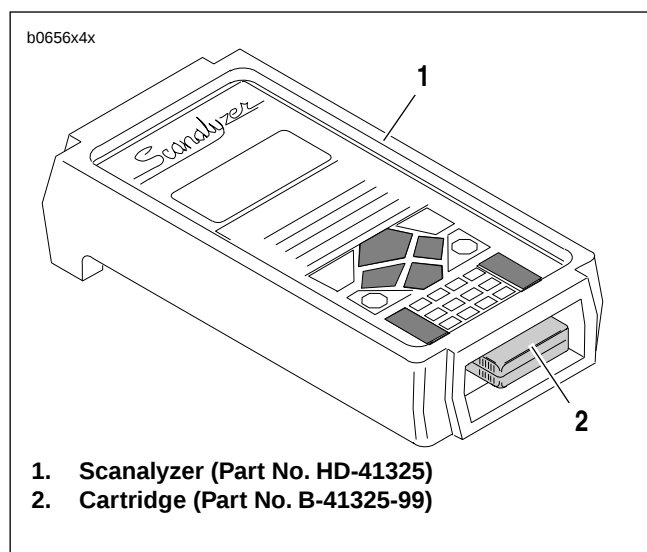
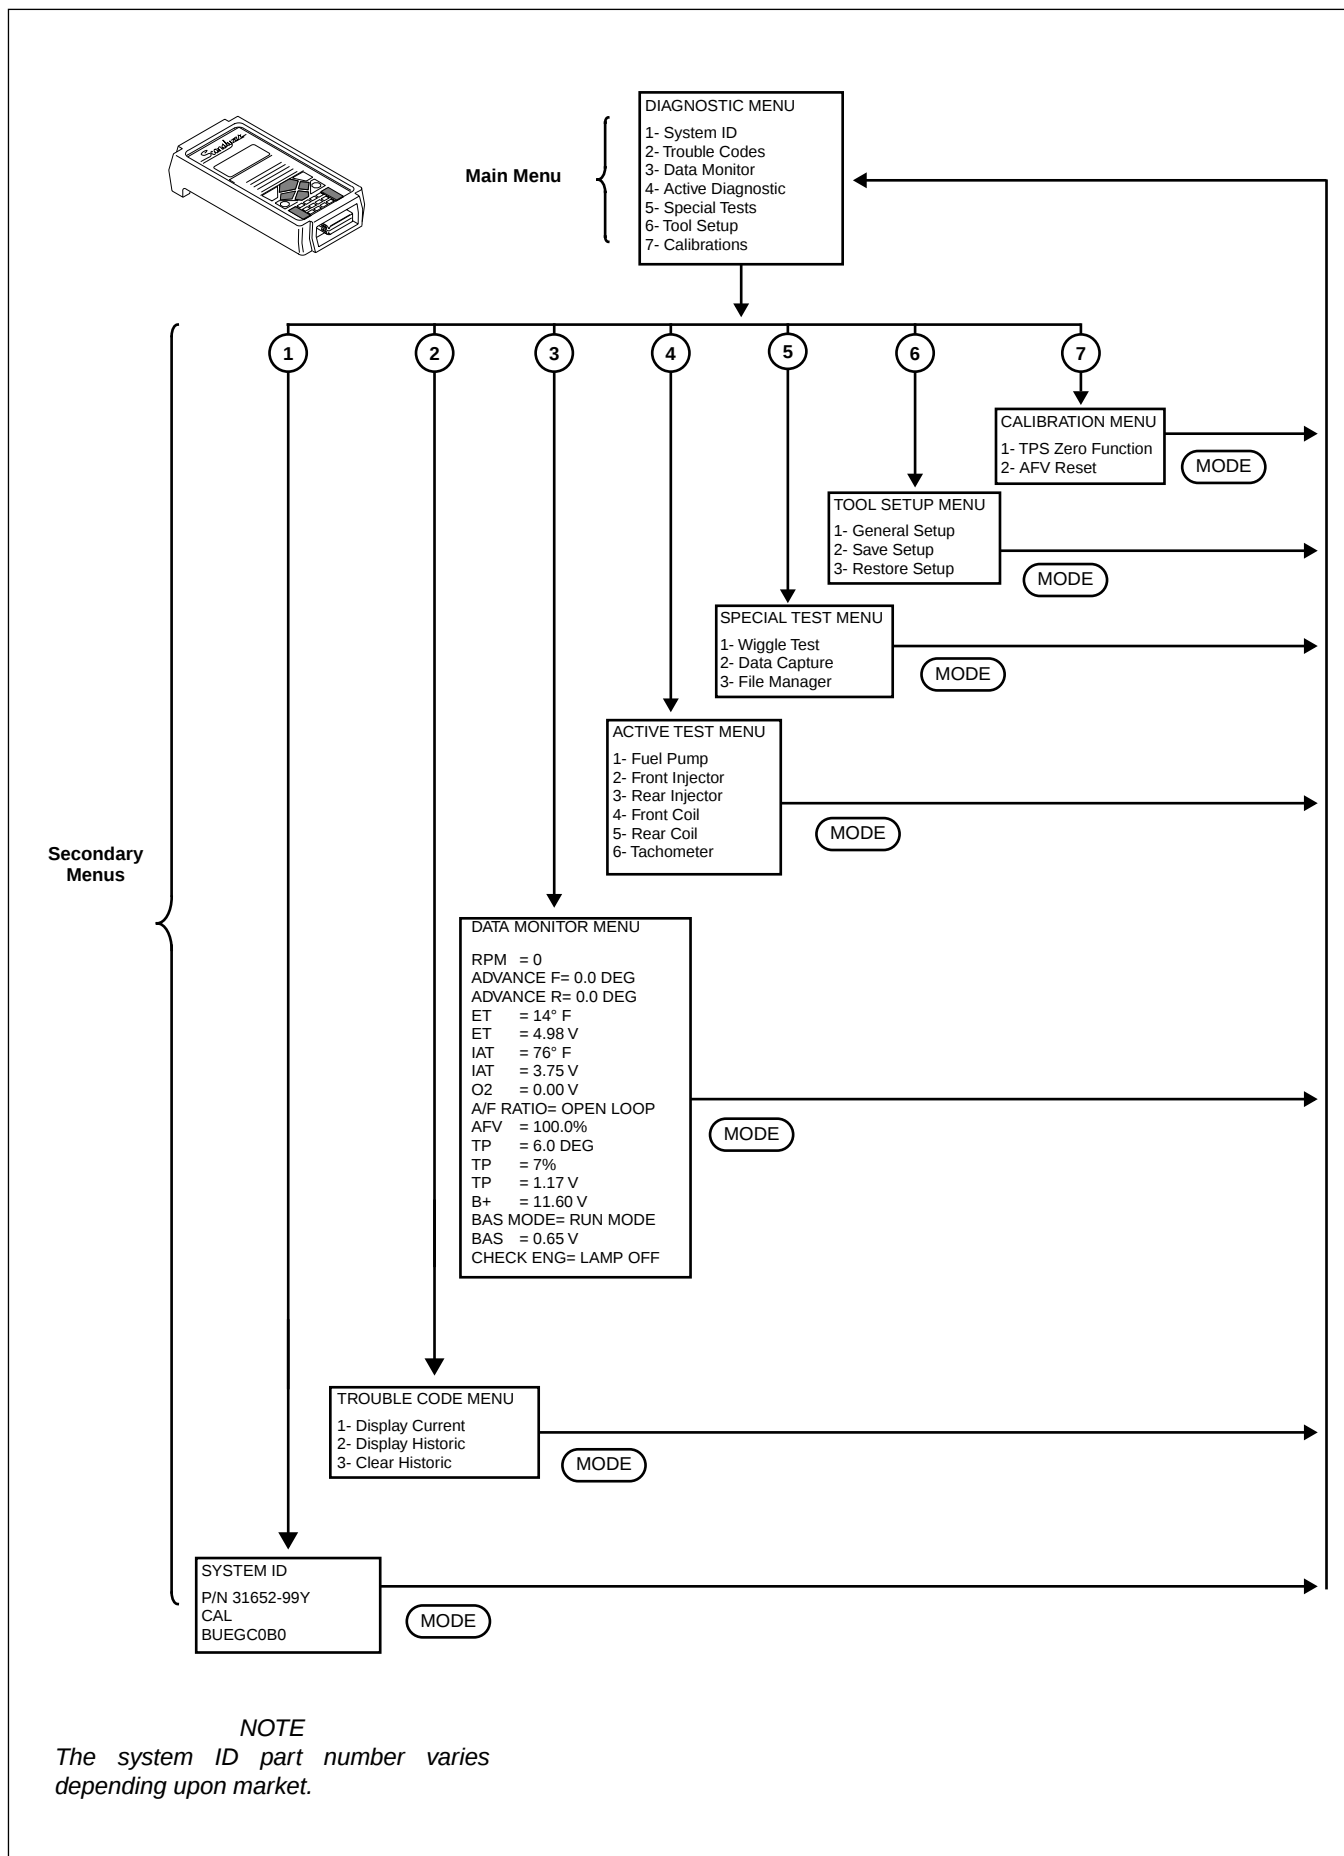

Figure 4-7. Scanalyzer and Cartridge
Figure 4-8. Scanalyzer Menus
See Figure 4-7. Through a special programmable application cartridge, the Scanalyzer offers data displays and menu selections that allow for quick and easy retrieval of data. The device enables the user to perform a variety of diagnostic tests while monitoring inputs and outputs.
Sample Scanalyzer menu selections are shown in Figure 4-8.
5. See Figure 4-7. Insert the diagnostic application cartridge (2) into the Scanalyzer (1). During the next few seconds, the Scanalyzer sequences through a series of screens that reflect a power-on self test, the system copyright, and then an attempt at communications with the ECM. Once communications is established with the ECM, the diagnostic menu appears. See Figure 4-8.
See Figure 4-8. The diagnostic menu is the primary system menu (main menu) through which all other secondary menus and displays are accessed. Since the screen may not be large enough to display all line items at any given time, use the up and down arrow keys to scroll through the list.